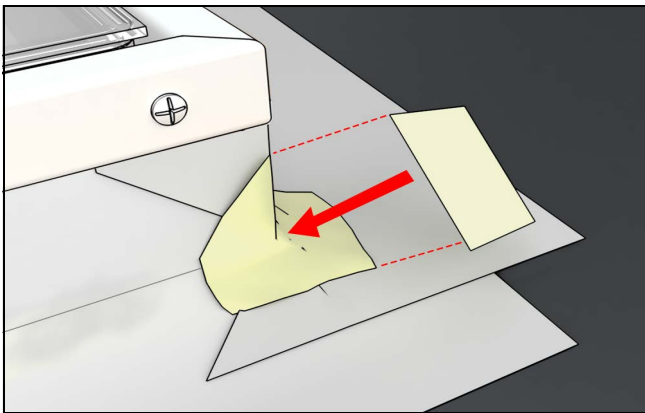

Figure 14
12. Cut out 3" diamond/square from adhesive flexible flashing. Apply diamond shaped corner patches to all corners. Stretch patches over each corner. See Figure 14.